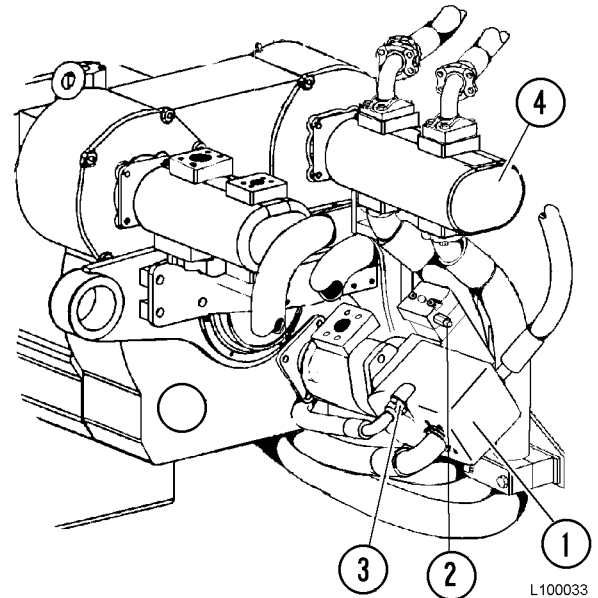

FIGURE 10-2. PUMP PRESSURE CONTROL
18. Adjust the steering pump compensator for testing of the steering shock valves. Compensator (2, Figure 10-2) must be set to $22\ 753 \pm 689$ kPa (3300 ± 100 psi) for this test.